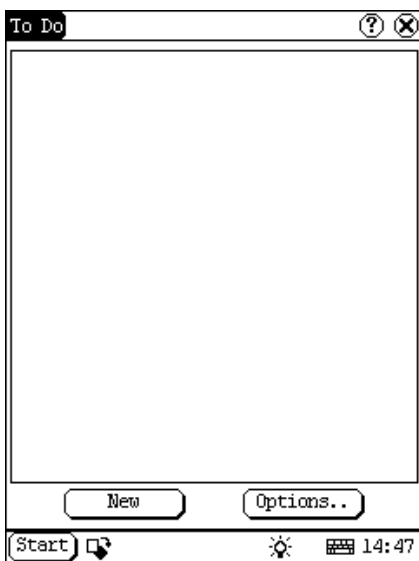

Figure 5-22
- 3) Click [Options] button to open the To Do Display interface. (See Figure 5-22)